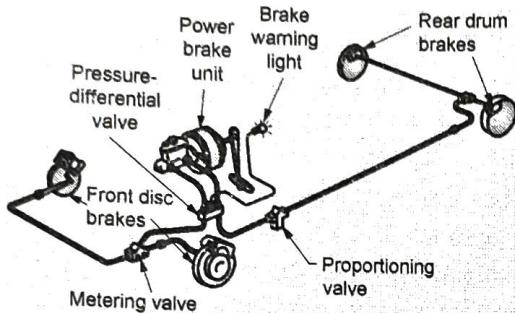

Fig. 4.50
- There should have rigid boxes for occupants with weaker ends which crumble on collision thereby absorbing the energy of impact and bringing the vehicle to stop instantly. Fig. 4.50 shows the rigid safety cell of Audi 100 car with its crumple zones at the front and rear sides.